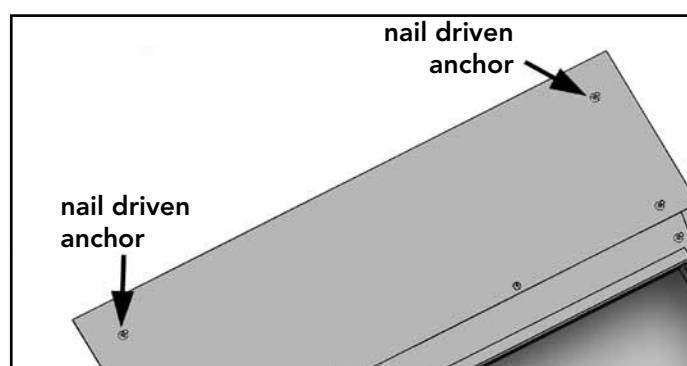
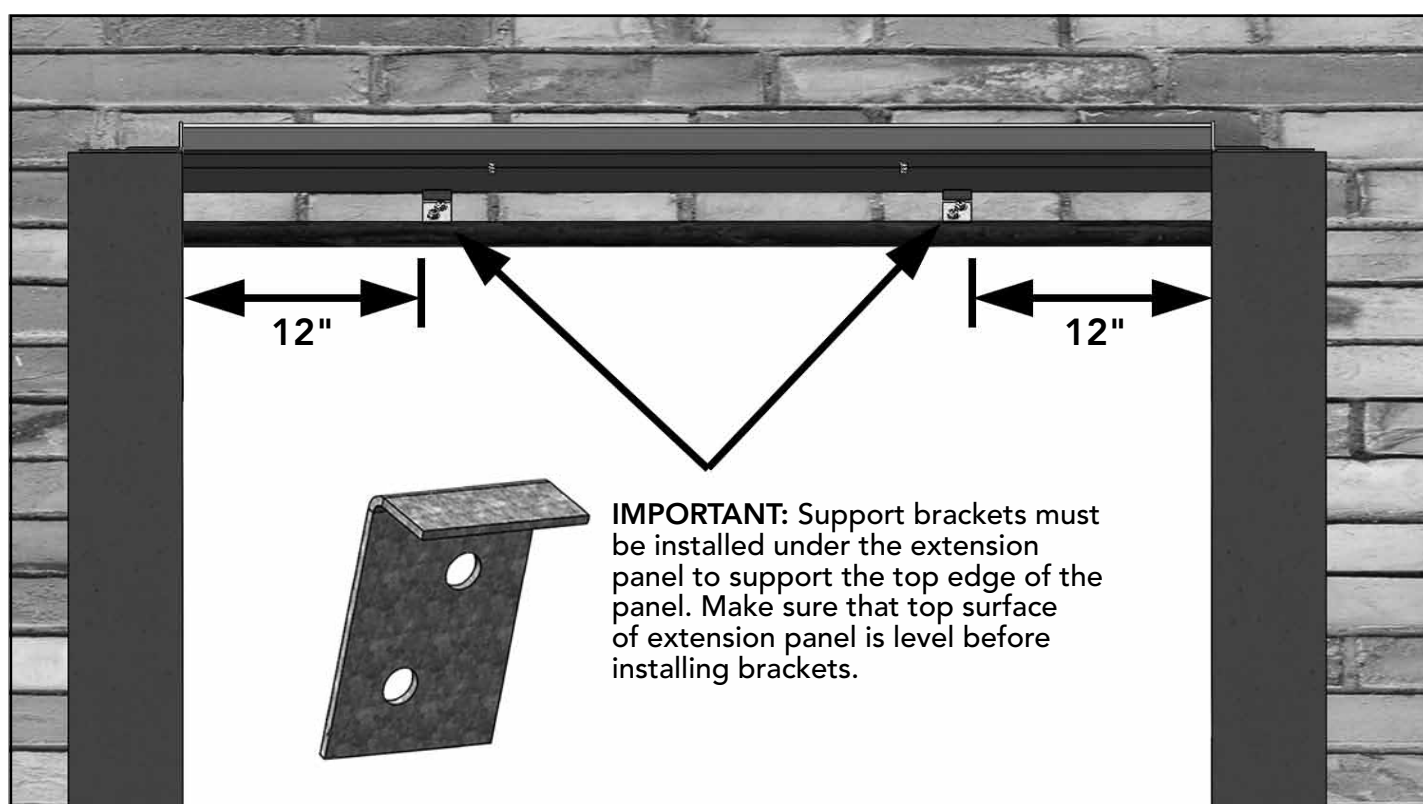

Figure 5
Figure 7
5. Secure the top outside hole locations in the extension panel to the foundation using nail driven anchors as shown in Figure 5 (Note: 6" extension panels do not have top holes and do not require this step). **IMPORTANT: Support brackets must be installed under all size extension panels to support the top edge of the panel.** From the underside of the door, position the support brackets 12" from each side so that they rest against the underside of the extension panel as shown in Figure 7. Secure the brackets to the exterior wall of the home using the 1/4" x 1-3/4" hex washer head tapcon anchors provided.